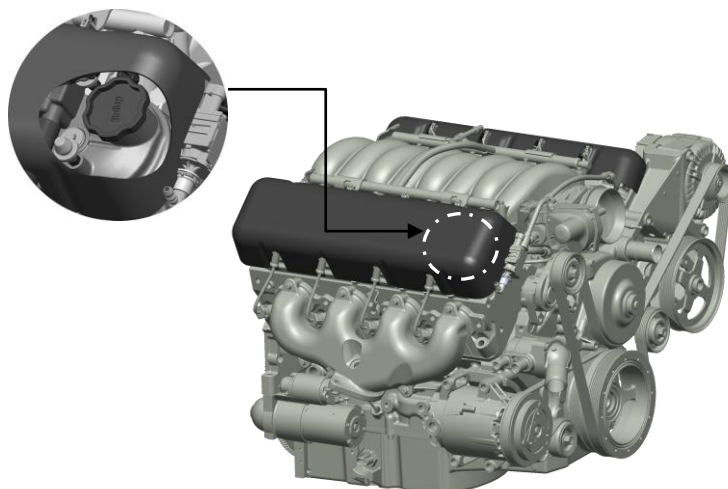

Figure 4
- A. For a clean look, the supplied fill cap can be used directly in the valve cover, under the coil cover (Figure 4). To add oil, the cover can be removed. Use extra care when removing cover in very low temperatures, as plastic may become brittle.